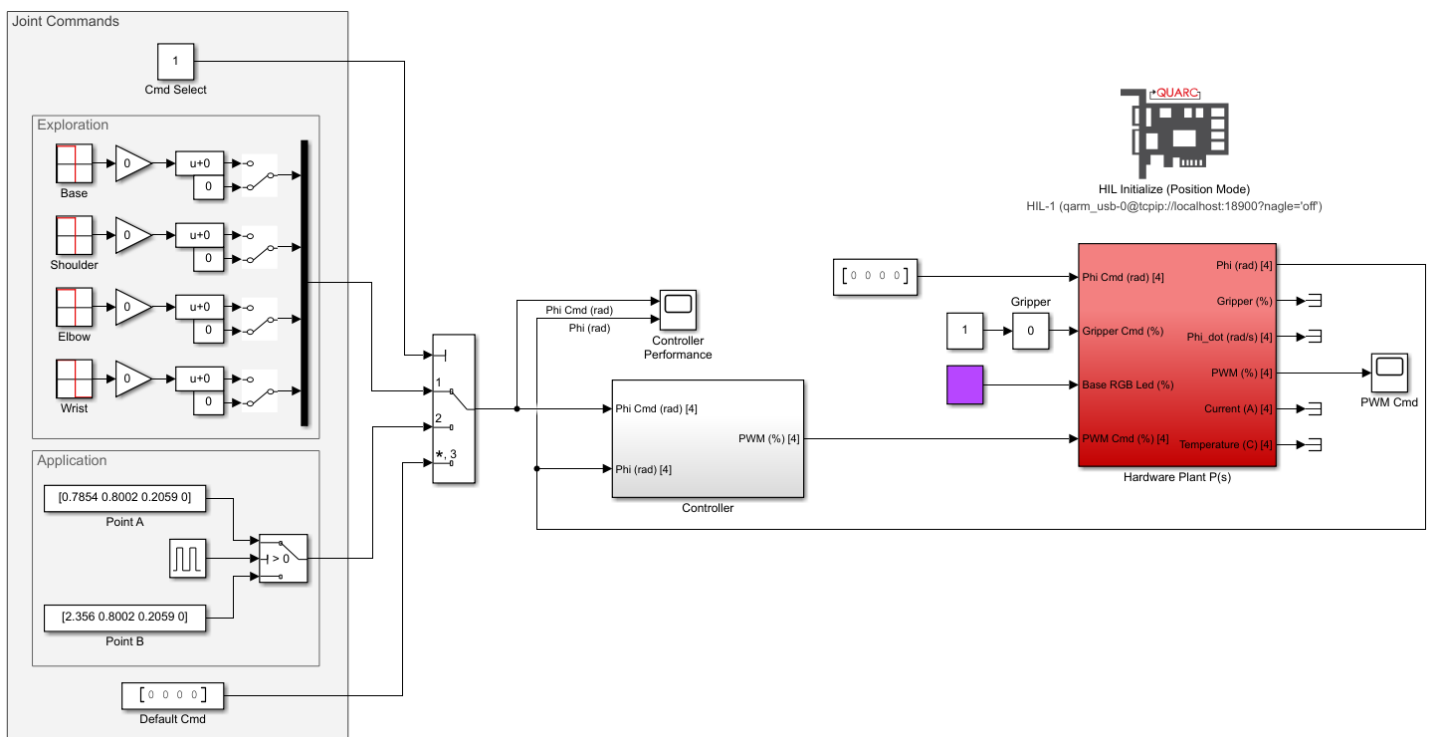

Figure 1: Simulink model that controls the QArm in PWM Mode.
1. Open the Simulink model LowLevelControlPWMMODE.slx (Figure 1). For this section of the lab you will use the switches and gains in the Exploration Box to select the setpoints for the base, shoulder, elbow and wrist motors. With varying setpoints, you will tune the proportional, integral, and derivative (PID) terms of the joint controllers to examine their effect on performance characteristics mentioned in the Application Guide.